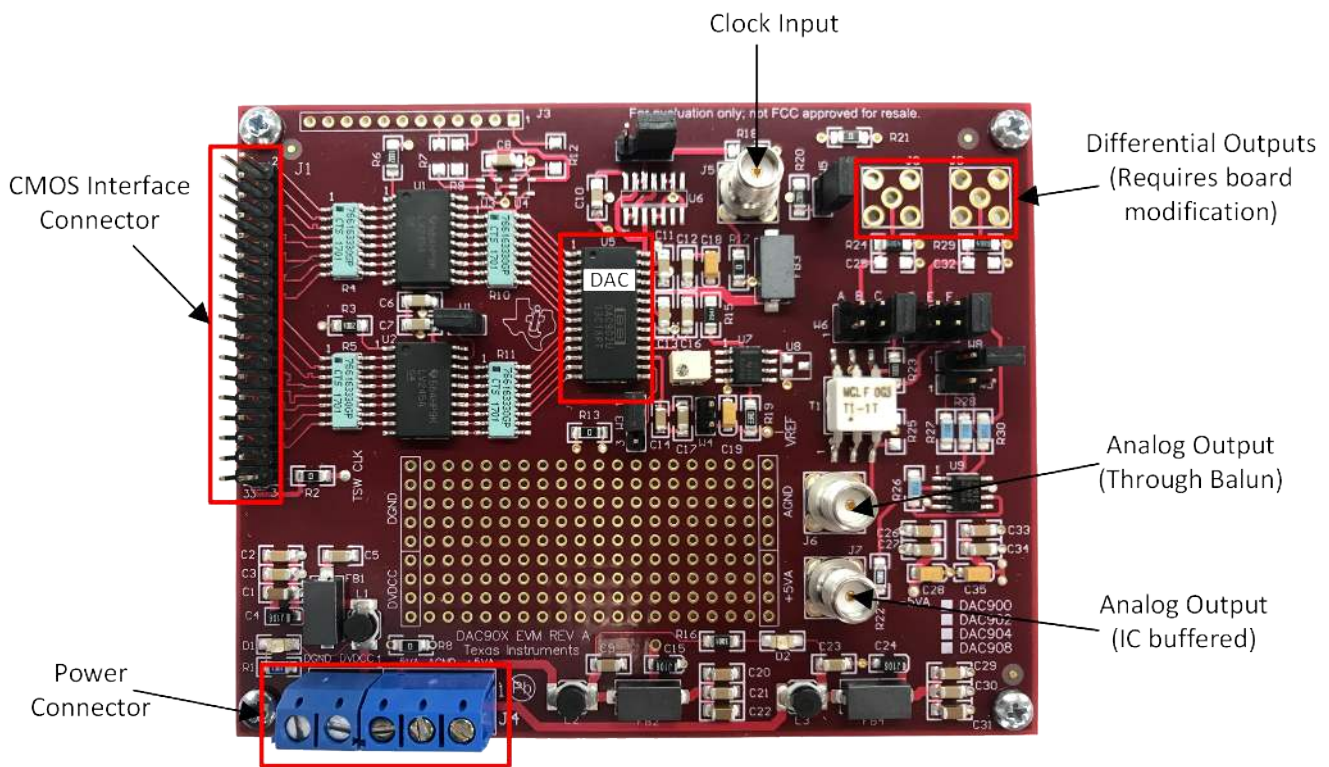

Figure 2. EVM Feature Locations
The EVM features are labeled in Figure 2.
1. Connect the power supply cables to the EVM. refer to Figure 2 and Table 6 for proper connections.